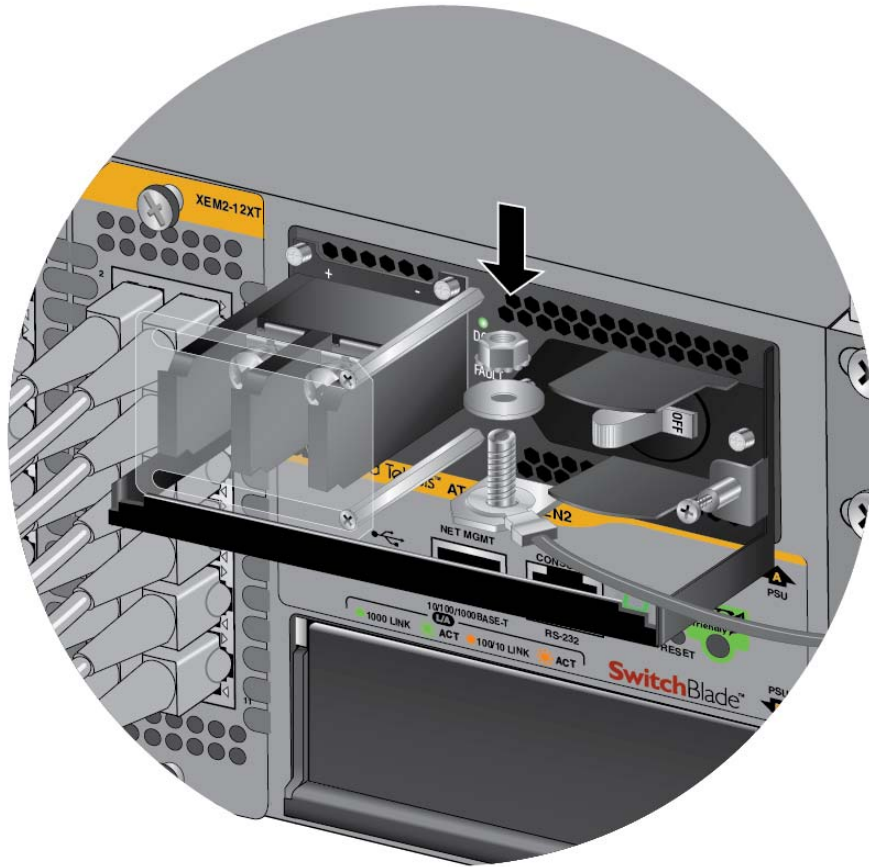

Figure 63. Securing the Grounding Wire
6. Secure the grounding wire with the nut and washer removed in step 4, with an 8 mm wrench. Refer to Figure 63 on page 100.